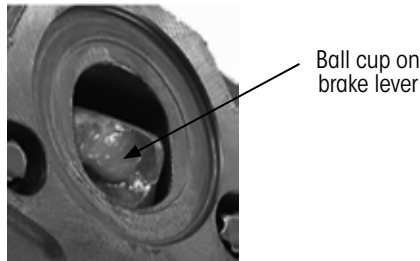

Figure 48: Greased ball cup
3. Before attaching the brake chamber, **grease** the ball cup in the brake lever (Figure 48).